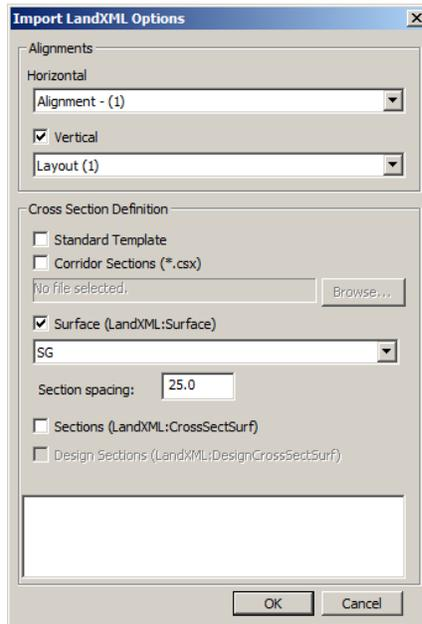

Figure 16: Initial Horizontal Alignment dialog
- Select the horizontal and vertical alignments (Alignment-(1) and Layout(1)) as shown in Figure 16 below.
10. Select *Surface (LandXML:Surface)*, choose *SG surface* and set the *Section Spacing* to 25 as shown in *Figure 16* above.